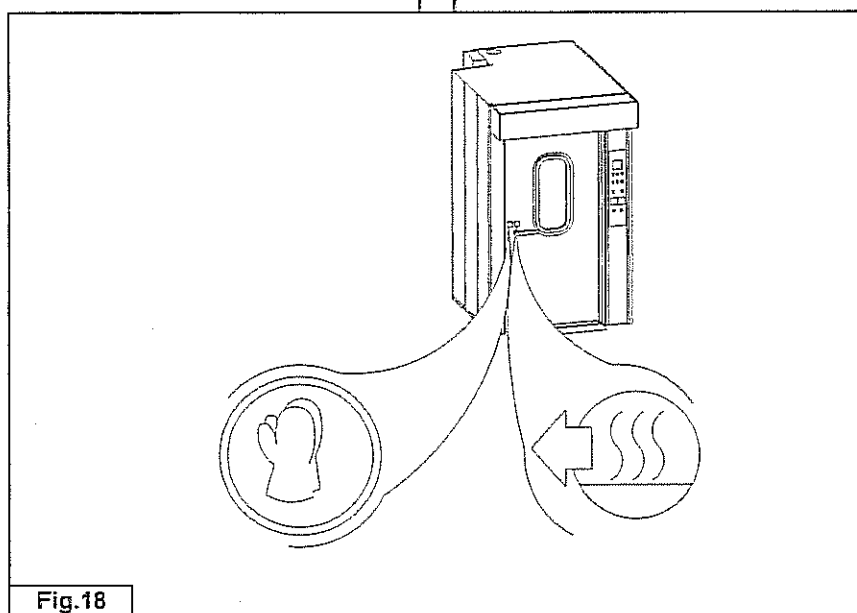

Fig.18
- Fasten the ID plate and warning signals as shown in Fig. 18 - 19.